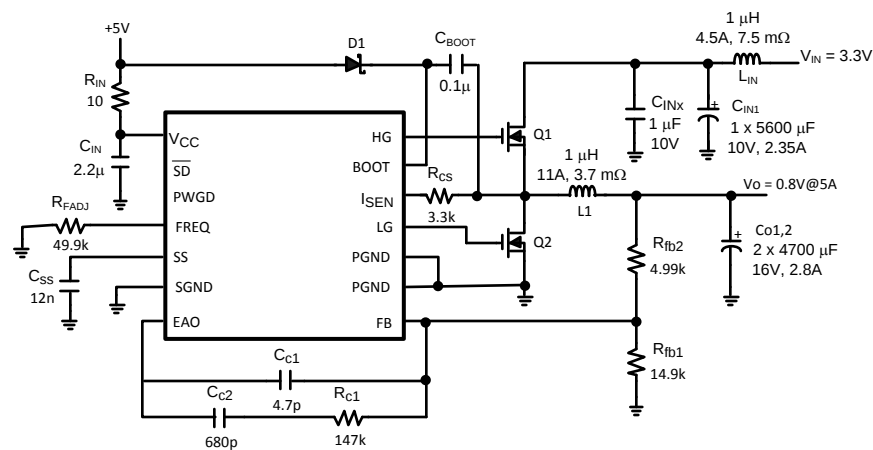

Figure 34. 3.3V to 0.8V, 5A, 500kHz
The circuit of Figure 34 demonstrates the LM2742 delivering a low output voltage at high efficiency (87%). A separate 5V supply is required to run the chip, however the input voltage can be as low as 2.2
**Table 5. Bill of Materials for Circuit of Figure 34**